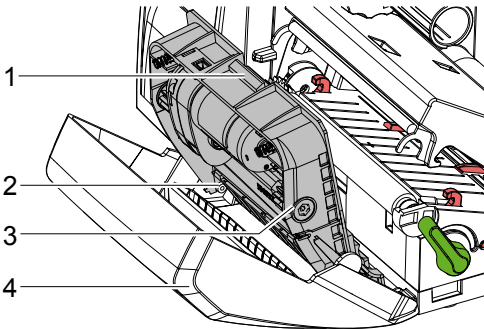

Fig. 16 Dismount Cutter
- ▶ Turn shaft (6) clockwise using a torx wrench TX10 until the gear racks (7) cannot engage anymore.
- ▶ Pull upper blade (9) out of the guides (8).
- ▶ Take out lower blade (10).
- ▶ Push lower blade down into the guides (11).
- ▶ If necessary, put springs (12) back into spring retainers (13).
- ▶ To re-mount the upper blade push lower blade down on the cover and push upper blade into the guide until the gear racks (7) can engage with the gear wheels (5).
- ▶ Turn shaft (6) counterclockwise using a torx wrench TX10 until the blade reaches the upper limit.
5. Fit blade unit (3) according to Fig. 16 into the axes (2) and fold it towards the cover (4) until it snaps in.